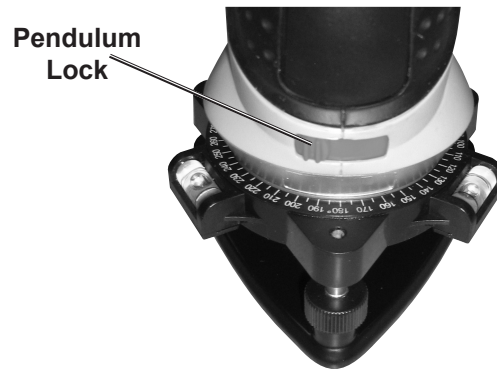

Figure 1
7. Push the Pendulum Lock to the right to free the pendulum. See Figure 1.
9. To disassemble and store, move the pendulum lock to the left (see Figure 1) and follow the above directions in reverse.
3. Push the Pendulum Lock to the right to free the pendulum. See Figure 1 on page 3.
7. To prevent damage to the level, tighten the pendulum lock (see Figure 1 on page 3) after use and store in the carrying case.
3. Engage Pendulum Lock by moving it to the left. See Figure 1 on page 3. After use the Pendulum Lock should be locked before the instrument is put away in the Carrying Case.
2. Push the Pendulum Lock to the right to free the pendulum. See Figure 1 on page 3.